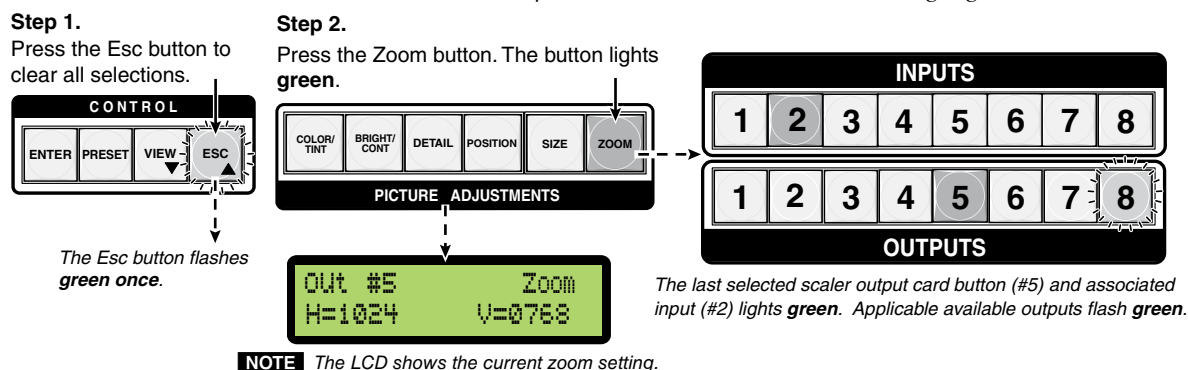

Figure 3-38 — Steps 1 and 2 for adjusting picture zoom
- Press and release the Zoom adjustment button. The output buttons for scaler /scan converter cards (outputs 3 through 8) and any associated (tied) input buttons light solid green. Untied outputs flash green. The LCD panel shows the current zoom setting (see figure 3-38) for that lit output.